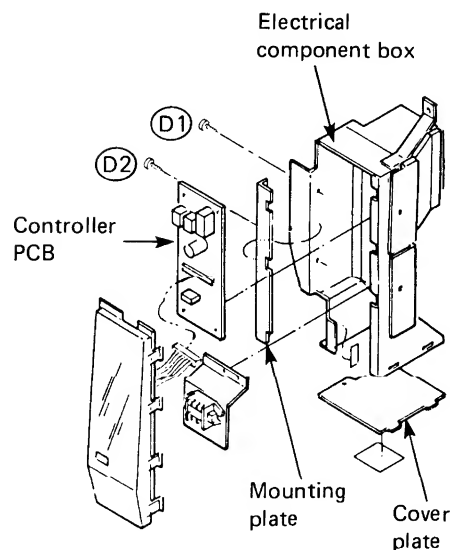

Fig. D-3
- 2) Loosen screws (D1), (D2) and remove the mounting plate. Fig. D-3.